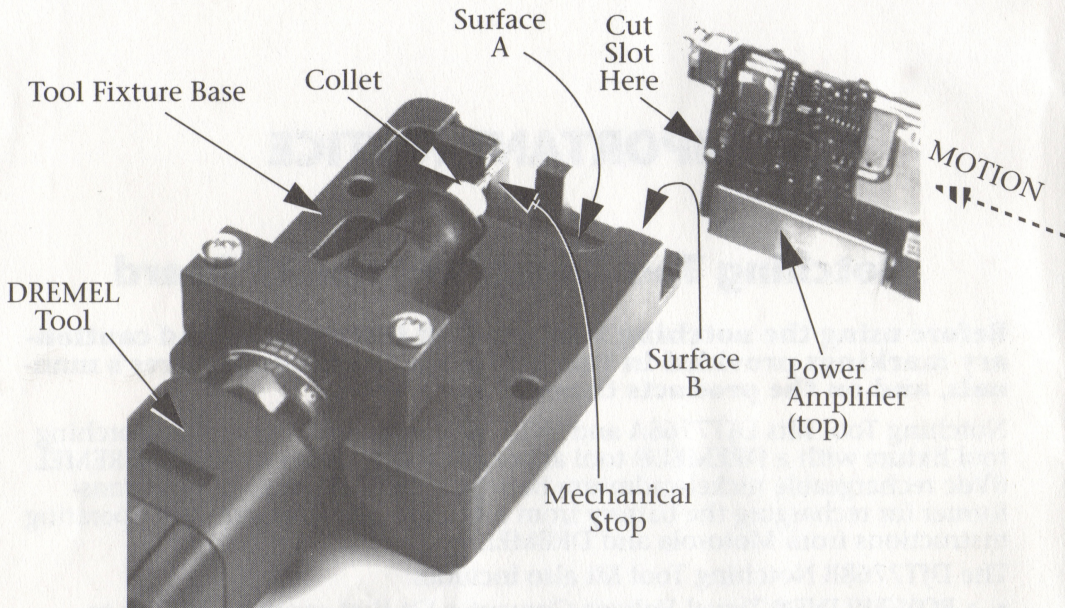
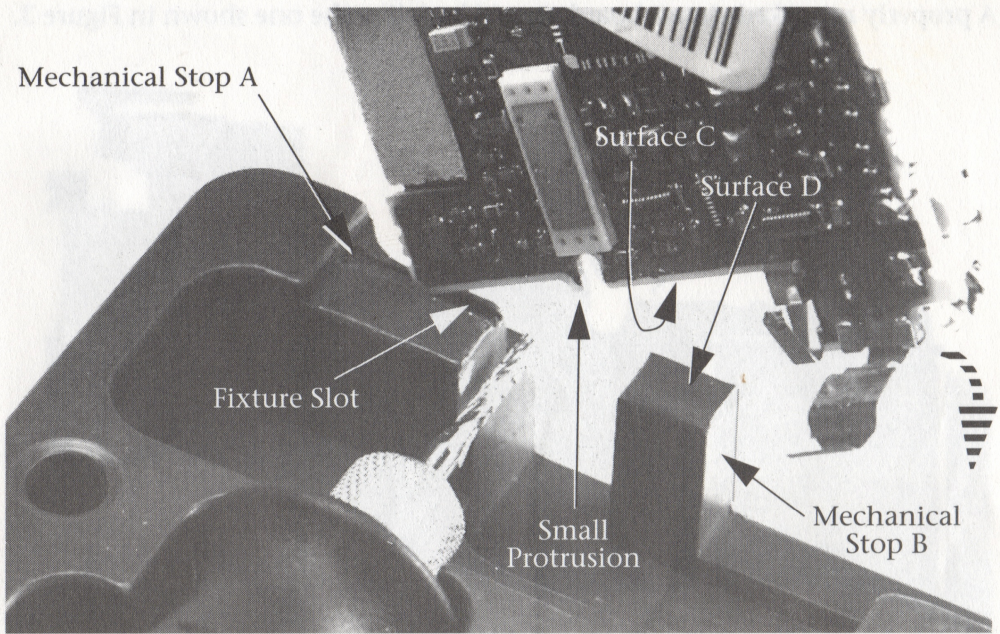

Figure 1. Cutting the Slot
Figure 2. Removing the Small Protrusion
The notching tool is preassembled and requires no further assembly. As a precautionary measure, check to make sure that the DREMEL tool collet is tight (see Figure 1). The DREMEL battery must be charged before its first use. Refer to the battery charging instructions supplied by DREMEL.
Two circuit board cuts are required, one cut to produce a slot configuration (see Figure 1), and another cut to remove a board protrusion (see Figure 2).
1. Position the RF circuit board in the tool fixture as shown in Figure 1.
2. Set the RF circuit board in the fixture, with the corner of the board in the fixture slot as shown in Figure 2.